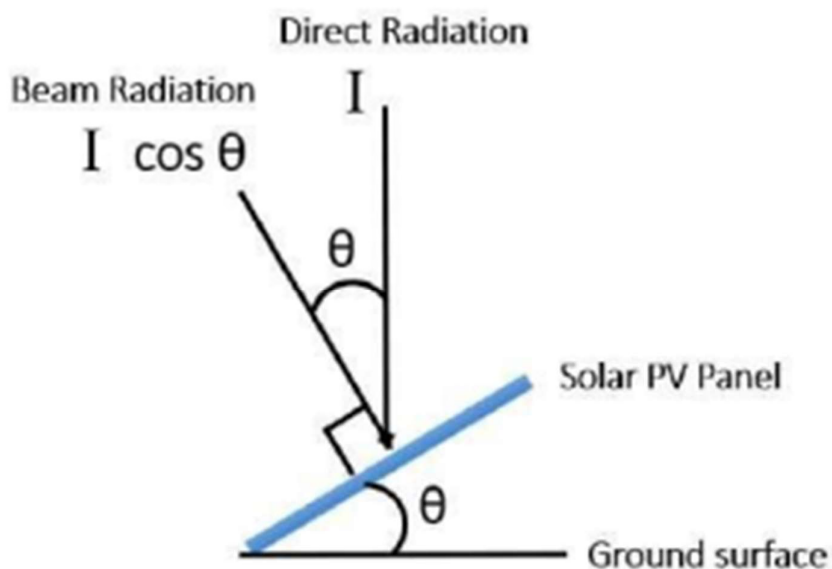

Fig. 2.11: The cosine component of direct radiation is called 'Beam Radiation'
5. **Beam Radiation (W/m^2):** This is the cosine component of the Direct Normal Irradiance, is shown in Fig. 2.11.